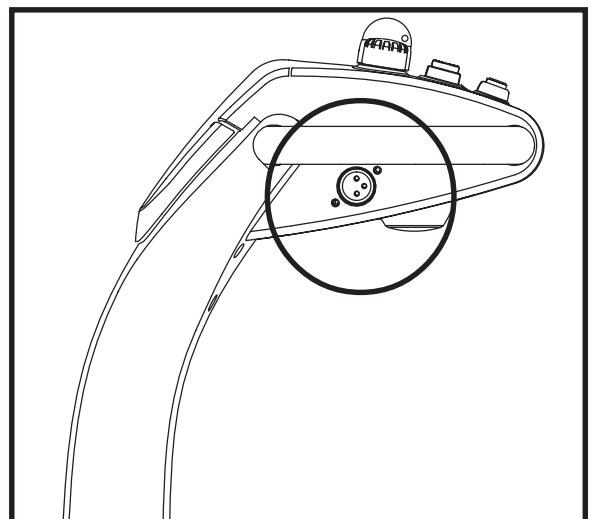

Figure 6. Off-board Charger Port
The off-board charger power lead plugs into this port when charging the batteries. See figure 6
4. Plug the 3-pin charger power lead into the off-board charger port. See figures 6 and 12A.